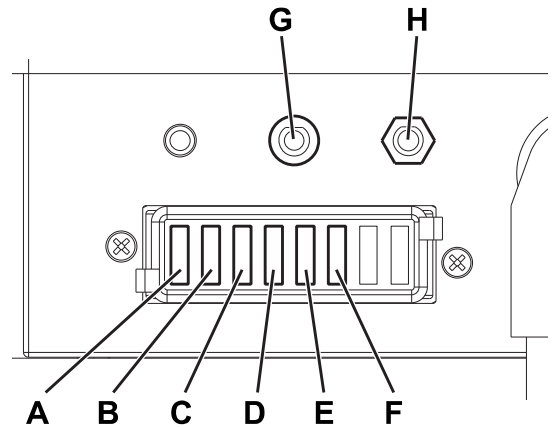
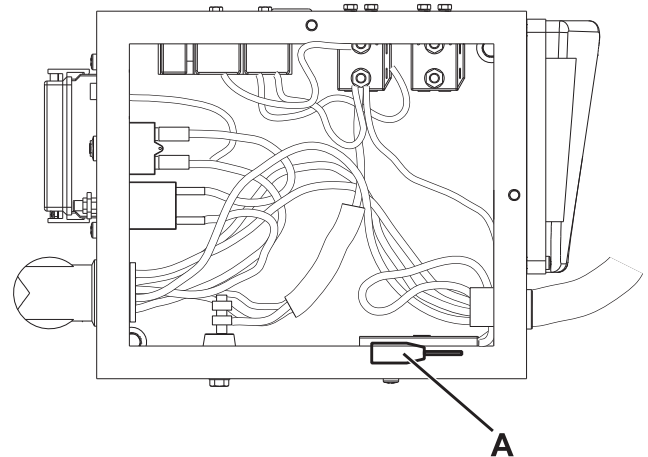

Figure 19
Figure 20
1. Remove the fuse box cover (51).
2. Check/replace the relevant fuse among the following (Fig. 19):
- (A): F1 main fuse (key circuit) (15 A)
- (B): F2 filter shaker motor fuse (25 A)
- (C): F3 manual vacuum system fuse (40 A) (optional)
- (D): F4 vacuum system motor fuse (30 A)
- (E): F5 horn and pivoting light fuse (10 A)
- (F): F6 working light fuse (10 A) (optional)
3. Remove the electrical component box cover (55).
4. Check/replace the following fuse (Fig. 20):
- (A): FT drive system fuse (70 A)
1. Check one of the following fuses (Fig. 19) for deactivation:
- (G): FA main broom motor fuse (30 A)
- (H): FB side broom motor fuse (10 A)